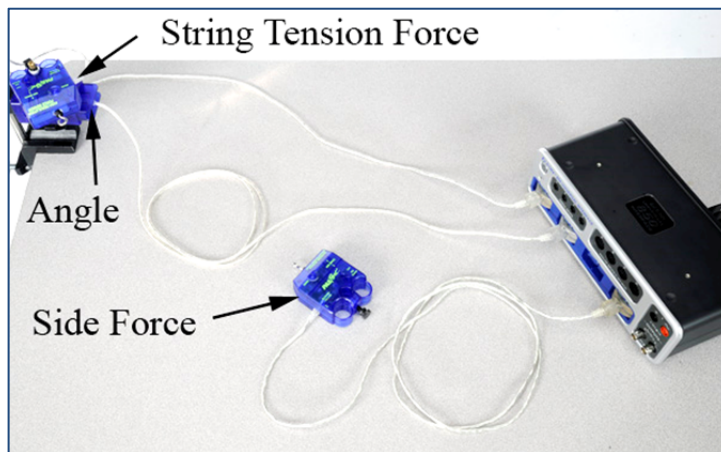

Figure 4: Plugging in Sensors
6. Plug the mounted Force Sensor into Port P1 as shown in Figure 4. Plug a second Force Sensor into Port P4. Plug the Rotary Motion Sensor into Port P2.